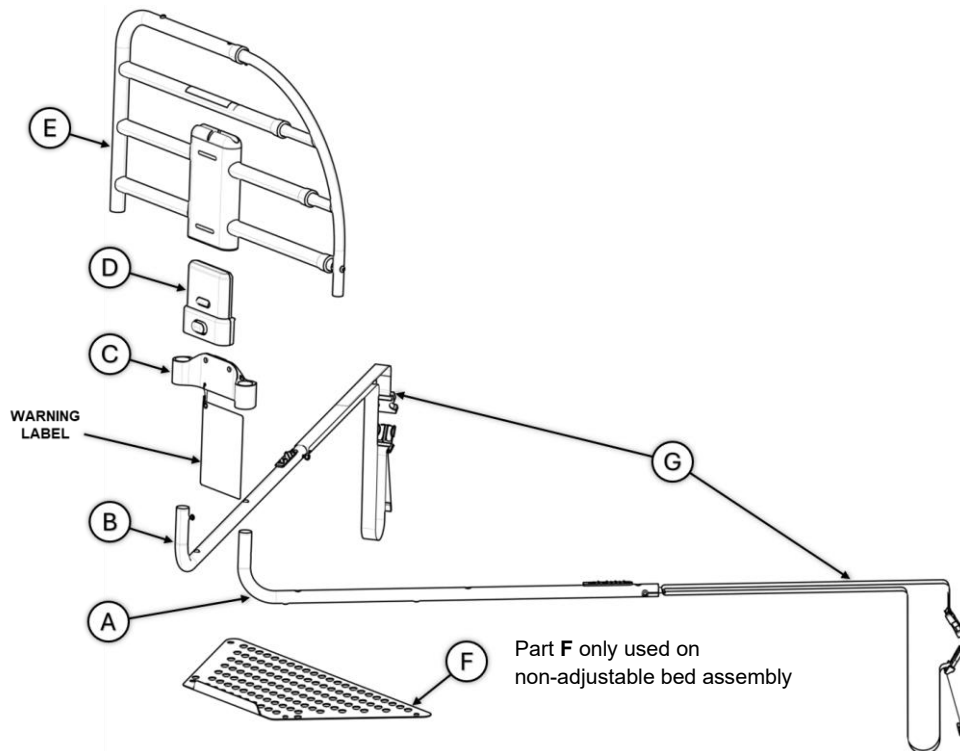

FIGURE 1
1. Remove product from box and identify all parts as shown in **FIGURE 1**.